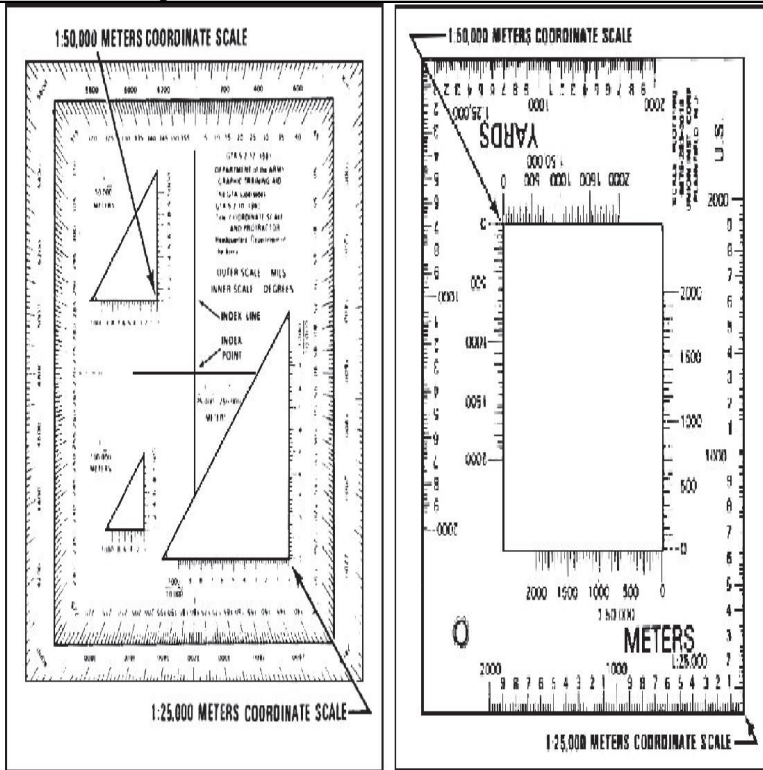

Figure 071-COM-1002-3. Coordinate Scale and Protractor (Left) and Plotting scale (Right).
a. Locate the grid square where the point is located (Example: Point A in Figure 071-COM-1002-4).